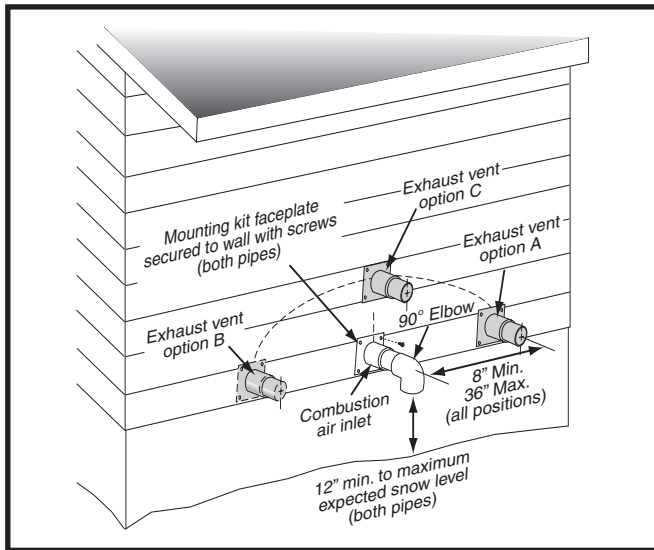

Figure 7. Inlet & Exhaust Pipe Clearances
- If a Direct Vent (2-pipe) system is used, the combustion air intake and the vent exhaust must be located in the same atmospheric pressure zone. This means both pipes must exit the building through the same portion of exterior wall or roof as shown in Figure 7, Figure 8, Figure 9, & Figure 10 (page 10).
- Vent and combustion air intake terminations shall be installed as depicted in Figure 7 & Figure 8 and in accordance with these instructions:
- All minimum clearances must be maintained to protect building materials from degradation by moisture content in flue gases. When wall venting on surfaces that could be affected by this moisture, it is recommended that a corrosion resistant shield be used behind the vent terminal. Adequately seal or caulk all joints, cracks, and seams around the vent terminal. See Figure 7.
- When the vent pipe must exit an exterior wall close to the grade or expected snow level where it is not possible to obtain clearances shown in Figure 7 (page 10), a riser may